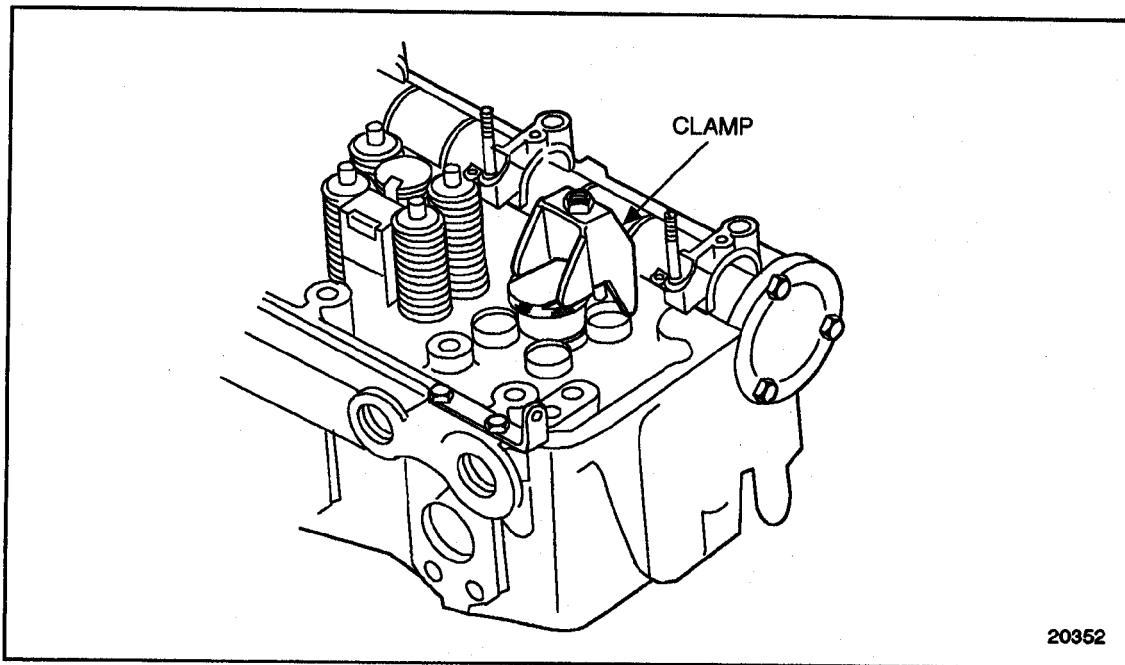

Figure 2-17 **Installing Injector Hold-down Clamp**
4. Install the EUI hold-down clamp and bolt it in place over J 33880-4. See Figure 2-17.